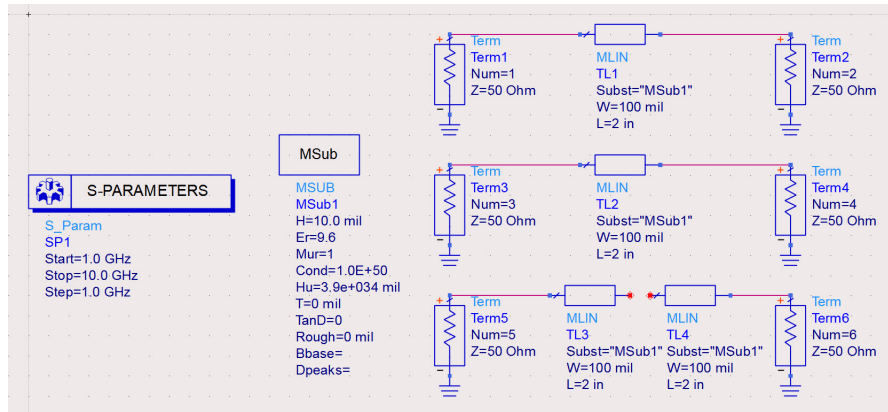

Figure 3: Schematic for the TRL design
- Below, we will show an example designing a TRL set. After finishing the design, your final schematic should be similar to Figure 3. Again, the values in the example are **NOT** for your reference.